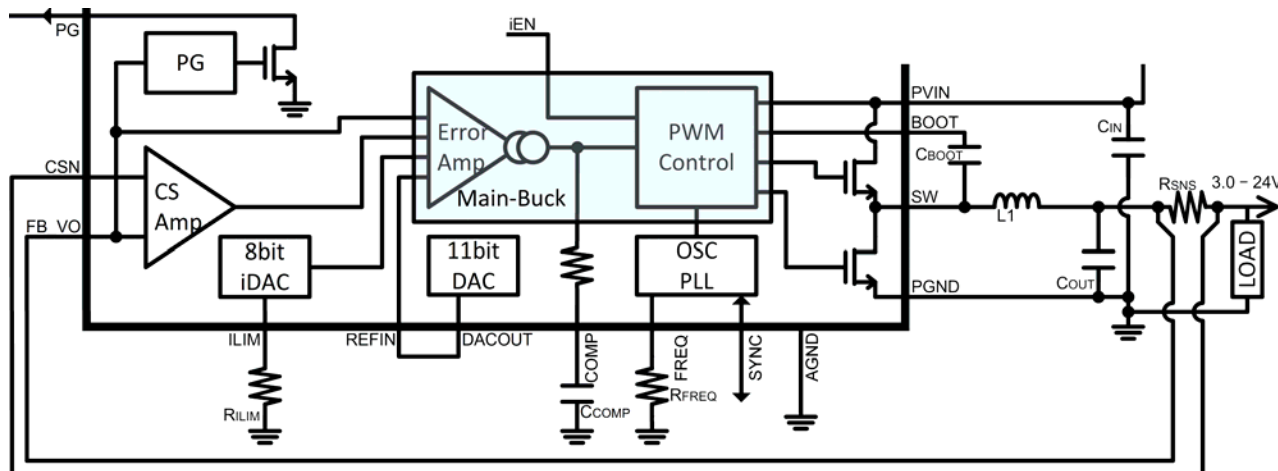

Figure 58. Main-buck Regulator
A compensation network is required between the COMP pin and the ground. See Figure 58 and Main-buck Compensation Network.
The ACT41000 provides a current sense (CS) amplifier to monitor its output current, I_{OUT} , precisely for the Programmable Current Limit and Over-Current Protection blocks. This CS amp uses the FB_VO pin and the CSN pin (current sense negative) as its differential inputs and generates a device internal signal, V_{CS} with a gain of **20**, by following the Eq.\(10\). As shown in Figure 58, the FB_VO and the CSN pins are monitoring an external current sense resistor R_{CS} .